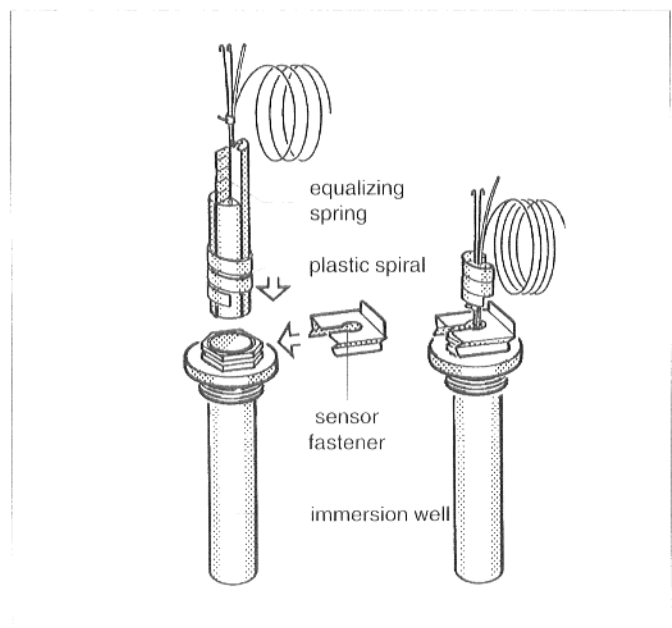

Fig. 13
- The plastic spiral for holding the sensors together is automatically pushed back (Fig. 13).
To ensure contact between the immersion well and the sensor surfaces, thus ensuring reliable temperature transfer, the equalizing spring must be pushed in between the sensors (Fig. 13).
- Push the sensor fastener from the side or the top onto the head of the immersion well (Fig. 13).